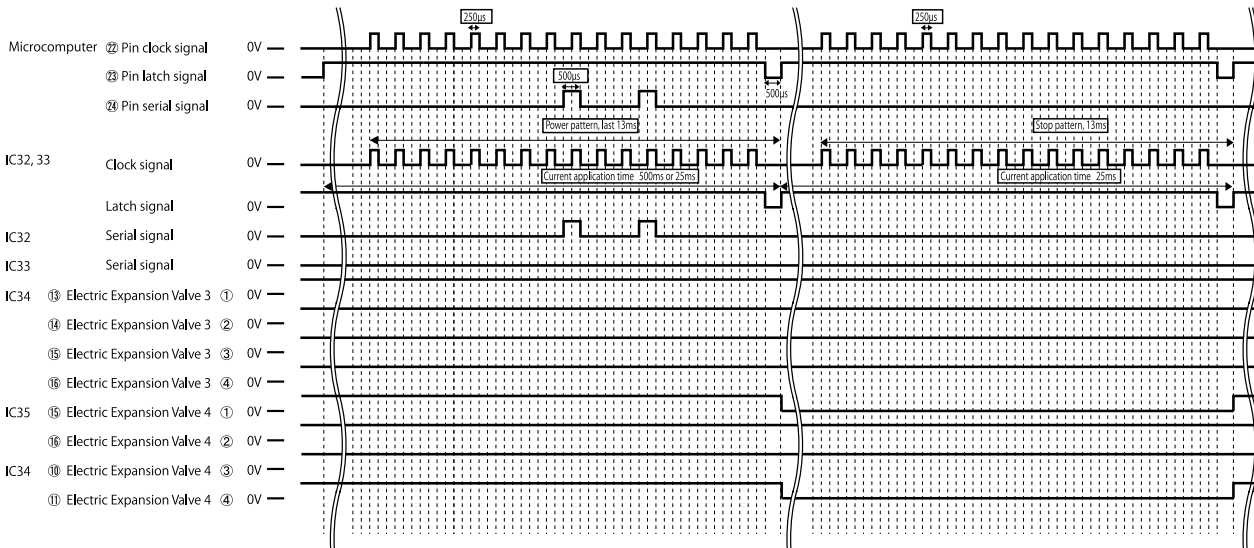

Fig. 5-3 Time Chart
- An example of circuit operation when an expansion valve is powered is shown in the time chart in Fig. 5-3.
- ① A clock signal (16 cycles at 750μs/cycle) is output from pin ② on the microcomputer. (One cycle for the clock signal is 500μs off, 250μs on.)
- ② A serial signal #1 of the power pattern is synced with the clock signal and output from pin ④ of the microcomputer.